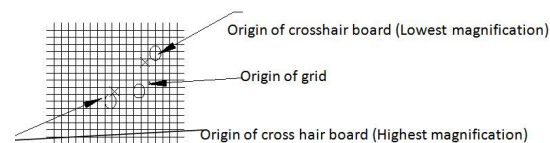

Figure 2-1
1. After focusing, adjust the magnification of the continuous objective to highest and lowest range, while maintaining position to the origin of the crosshair board on the gridded eyepiece as shown in (Fig.2-1)